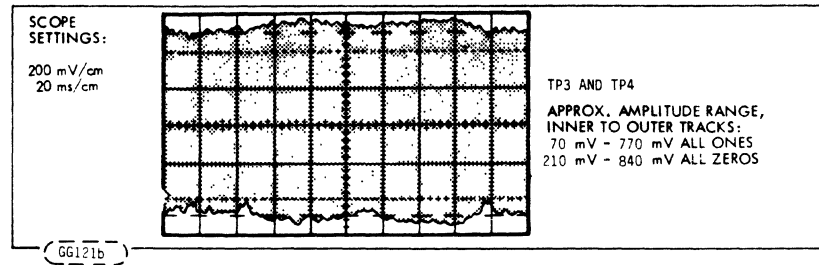

FIGURE 6-1, DIFFERENTIAL READ SIGNAL FOR ENTIRE TRACK
3. Signals should conform to Figure 5-1 and Figure 6-1 through 6-3.